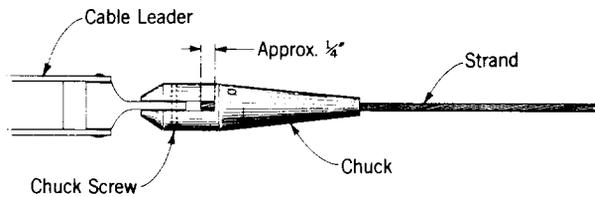

Fig. 5 — E Cable Leader Chuck
2.06 To attach the suspension strand to the cable leader chuck, it is important that the strand is not pushed against the chuck screw as this will not allow enough space for attachment to the leader or pulling line. The strand should protrude into the mounting slot about 1/4 inch, as shown in Fig. 5.